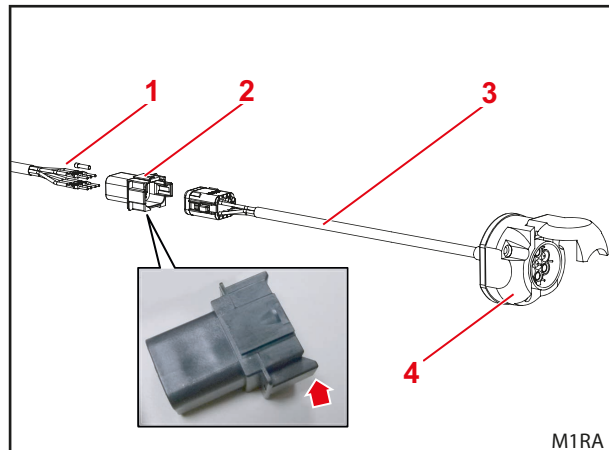

Fig. 37 8-pin plug connector with "lug" to connect an adapter cable with a 7-pin socket
- 8-pin plug connector with "lug" (red arrow in Fig. 37) to connect an adapter cable with a 7-pin socket.